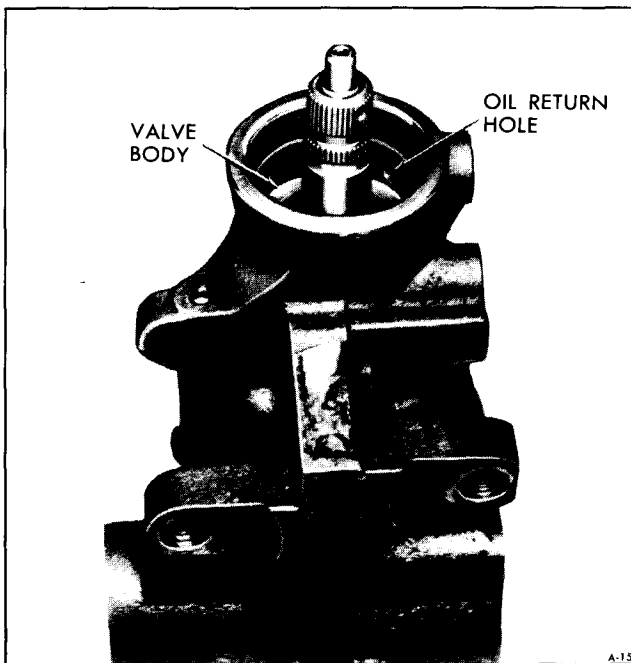

Figure 52—Valve Body in Housing
**NOTE:** The valve body is properly seated when the oil return hole in the housing is entirely uncovered (figure 52).